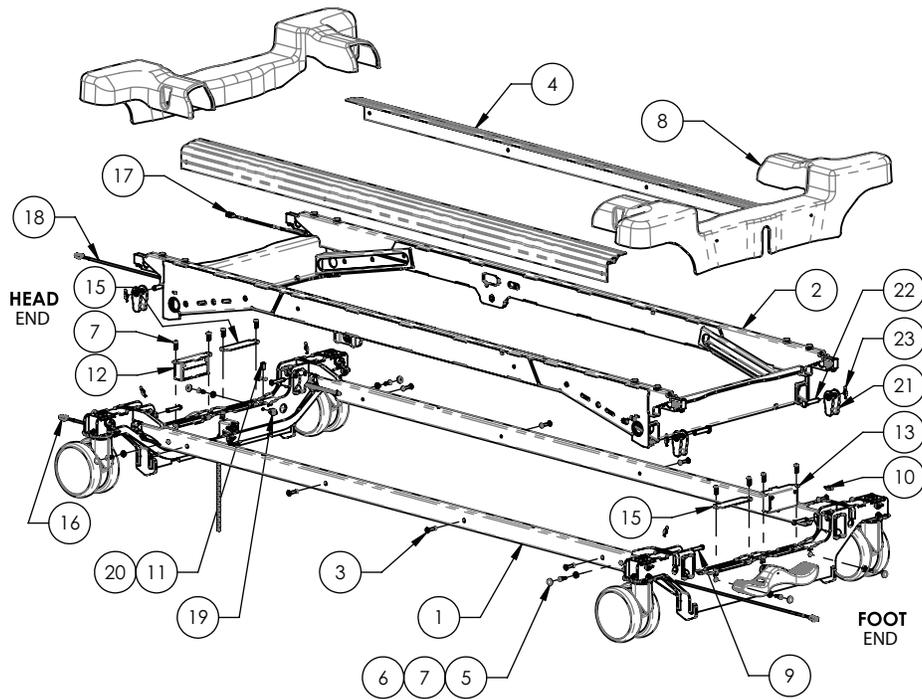

Figure 34 – Scale board replacement
5. Using a small flat head screwdriver, remove and save the four caster cover screw caps (6) (Figure 34).
6. Using a #2 Phillips screwdriver, remove and save the four screws (7) and washers (5) that secure the caster cover (8) to the base frame (Figure 34). Remove and save the caster cover.